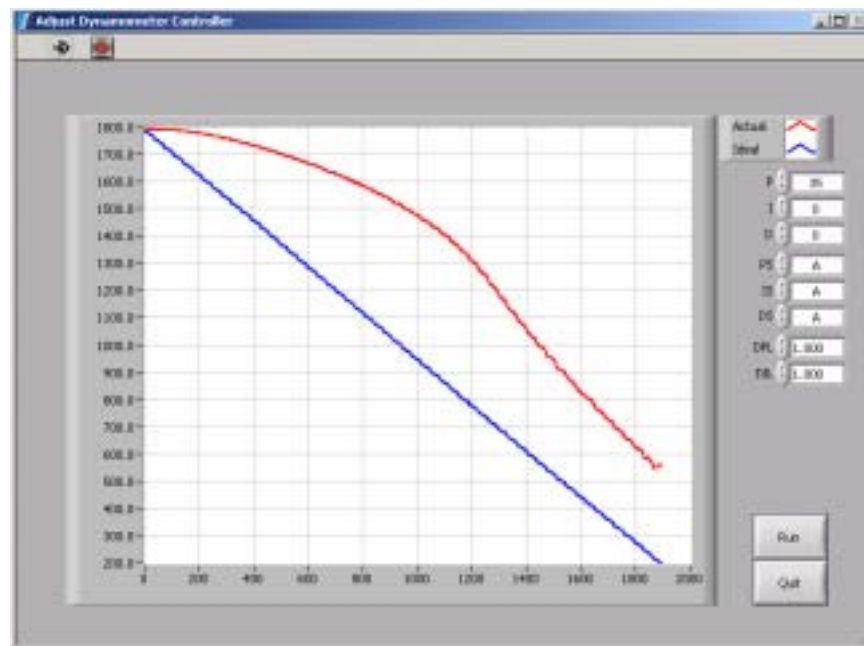

Figure 7–6 Ramp (with bump and offset)
8. If the actual response is not consistent with the ideal response and there is a bump as seen in Figure 7–5, set I to **35**. For more information on ideal and actual response, see *Section 6.9–Adjust Controller*.